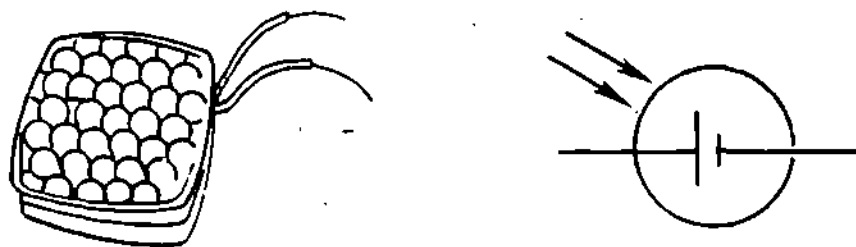

Figure 12
14. A device which converts light energy into electrical energy is called a photovoltaic cell. More popular names you have heard are "solar cell" and "solar battery". A solar cell is a device that acts like a battery with light providing the energy source. An example of a solar cell and the schematic symbol are shown in Figure 12.